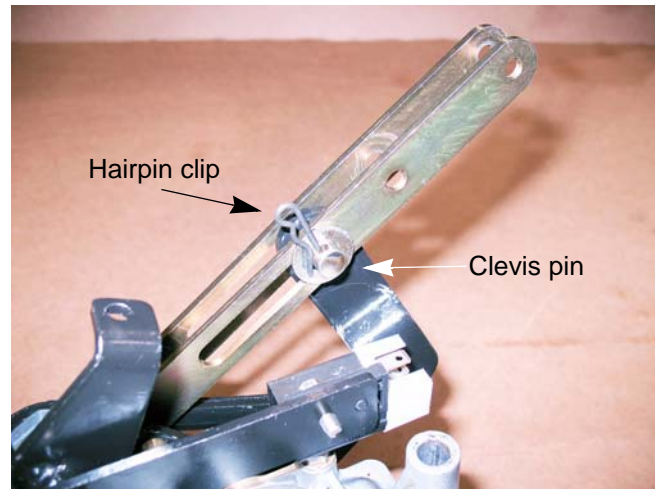

Figure 6.29
- 2a. Remove the hairpin clip and clevis pin. See Figure 6.29.